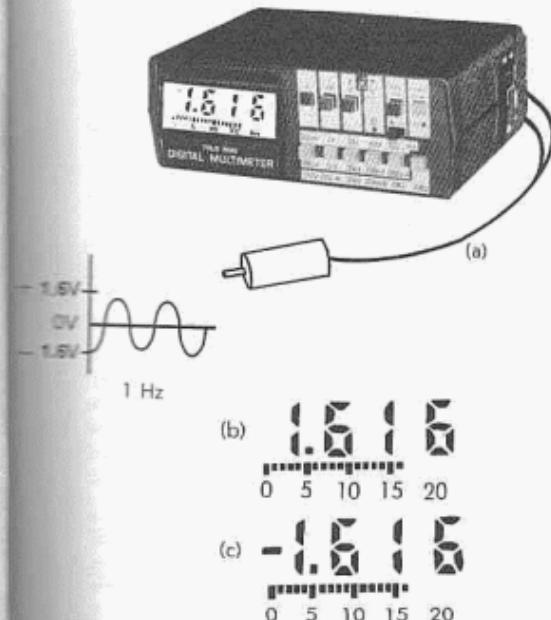

FIGURE 6-1.
6.2.2 As an example of the low frequency signal measurement application, consider a servo-control system in which the position of a slowly rotating shaft is converted into a voltage proportional to the sine of the shaft's angular position. The test set-up required is shown in Figure 6.1 (a).
6.2.3 To measure the low frequency signal shown in Figure 6.1 (a), use the following procedure:
- (d) Depress the PEAK HOLD button with the " \pm " switch in the "+" position. The positive peak voltage (+1.6V) will be held and displayed as shown in Figure 6.1 (b). Note that the bargraph is still following the input signal. The bargraph is not affected by the Peak Hold function.
- (e) With the PEAK HOLD switch depressed, slide the " \pm " switch to the " $-$ " position. The negative peak voltage (-1.6V) will be held and displayed as shown in Figure 6.1 (c). Note that the bargraph is still following the input signal.